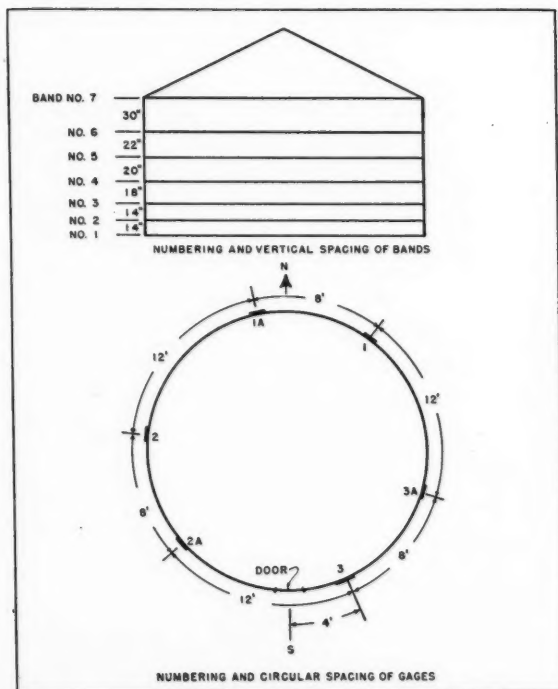

Fig. 3 Location and numbering of strain gages
**Test Procedure.** For the first investigation a series of 10-in gage positions had been established. Fig 3 shows on an elevation of the bin the numbering and spacing of the bands, also on a plan of the bin the numbering and circular spacing of the gages. Band Nos. 2, 4, and 7 had six gages each (Nos. 1, 1A, 2, 2A, 3, 3A) and the other bands three gages each (Nos. 1, 2, and 3. This made a total of thirty gages.